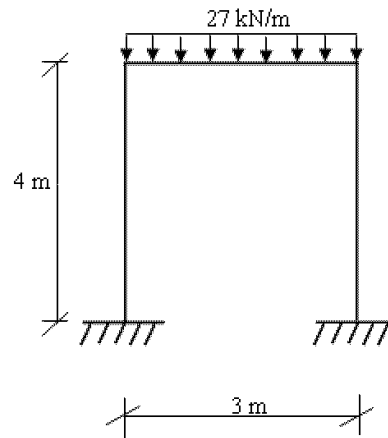

Figure 5
Q. 4 Analyse the rigid frame as shown in figure 5 using slope deflection method and hence draw the BMD. I of columns = $2I$ of beam. The downward settlement of foundation at right side is 10 mm. **L 4 12**